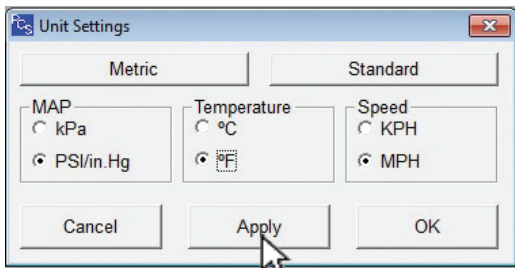

Figure 2
- The "Unit Settings" dialog box will be shown. **Reference Figure 2.**